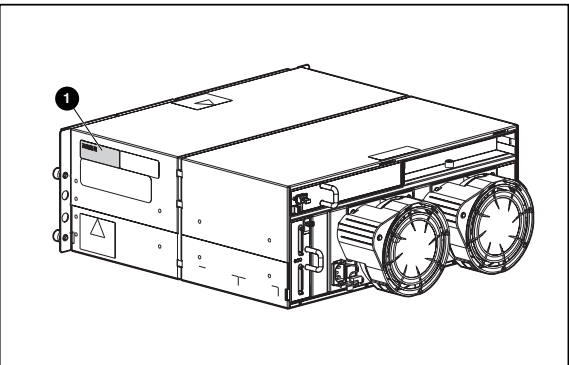

Figure 12: Replacement chassis serial number label location
- 1. When finished, write the serial number, shown on the original chassis, on the label of the replacement chassis ❶, located in the area shown in Figure 12.